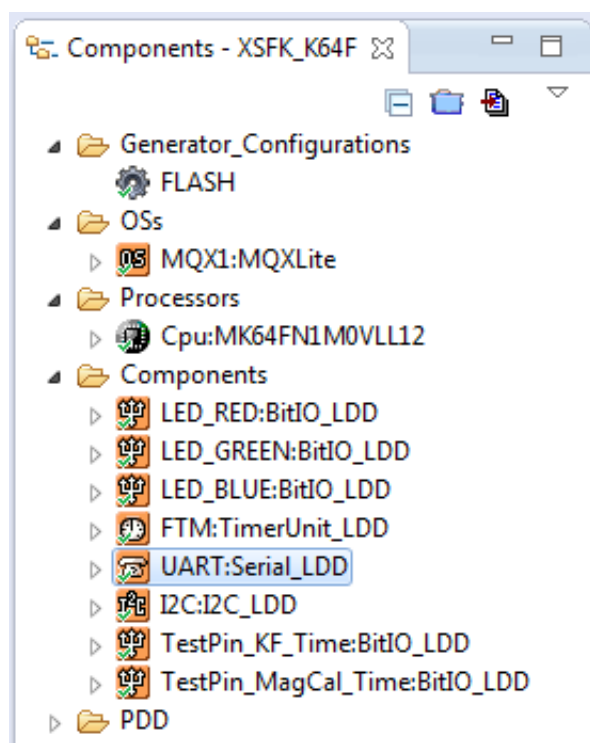

Figure 13. Processor Expert Components for XSFLK_64F panel
- b. With the project selected, in the **Processor Expert Components** panel, select **UART:Serial_LDD** entry as shown in Figure 13 :